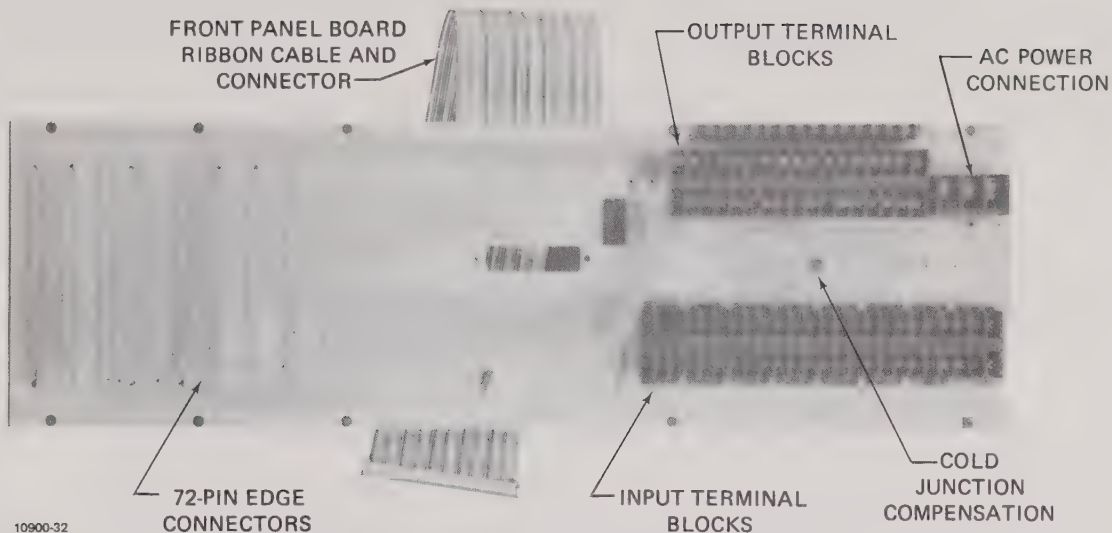

Figure 2.13 - Backplane Board
2.2.10 Backplane Board (See Figure 2.13)